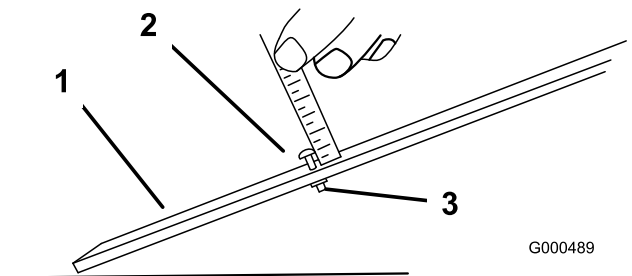

Figure 15
2. Loosen the nut on the gauge bar and set the height adjusting bolt to the desired height-of-cut (Figure 15). The distance between the bottom of the bolt head and the face of the bar is the height-of-cut.